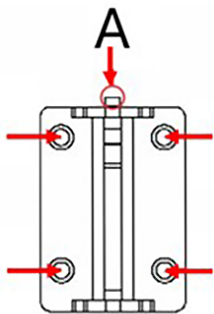

Figure 2
- a. Hold the wall bracket at the marked, leveled location and mark the wall through the mounting holes indicated by the arrows in Figure 2.
- d. Tighten the screw at position A (Figure 2) fully once the left-right angle is confirmed.
- **Left-right (pan) angle:** loosen the screw at position A (Figure 2), pivot the bracket to the desired angle, then retighten firmly.